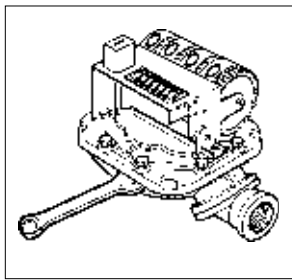

Figure 1
2. Remove the eight pairs of nuts and bolts which hold the coverplate assembly to the housing. (Figure 1) Note the position of the reset button.